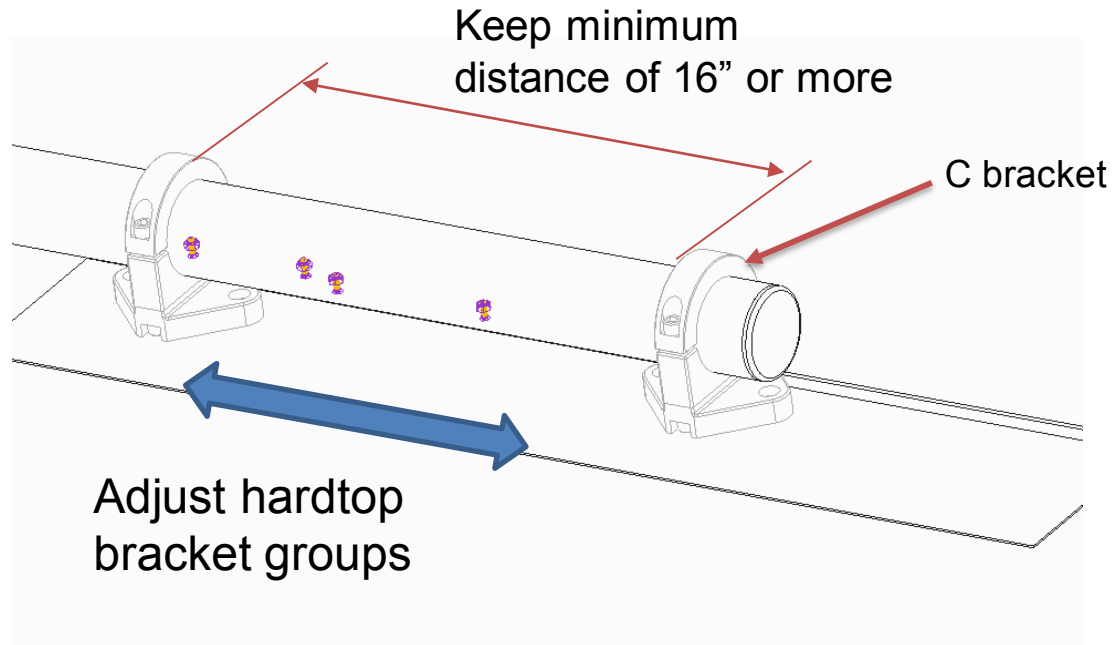

Figure 9
- C. **MUST** keep a minimum distance between "C" brackets of 16" or more for strength and stability. See figure 9